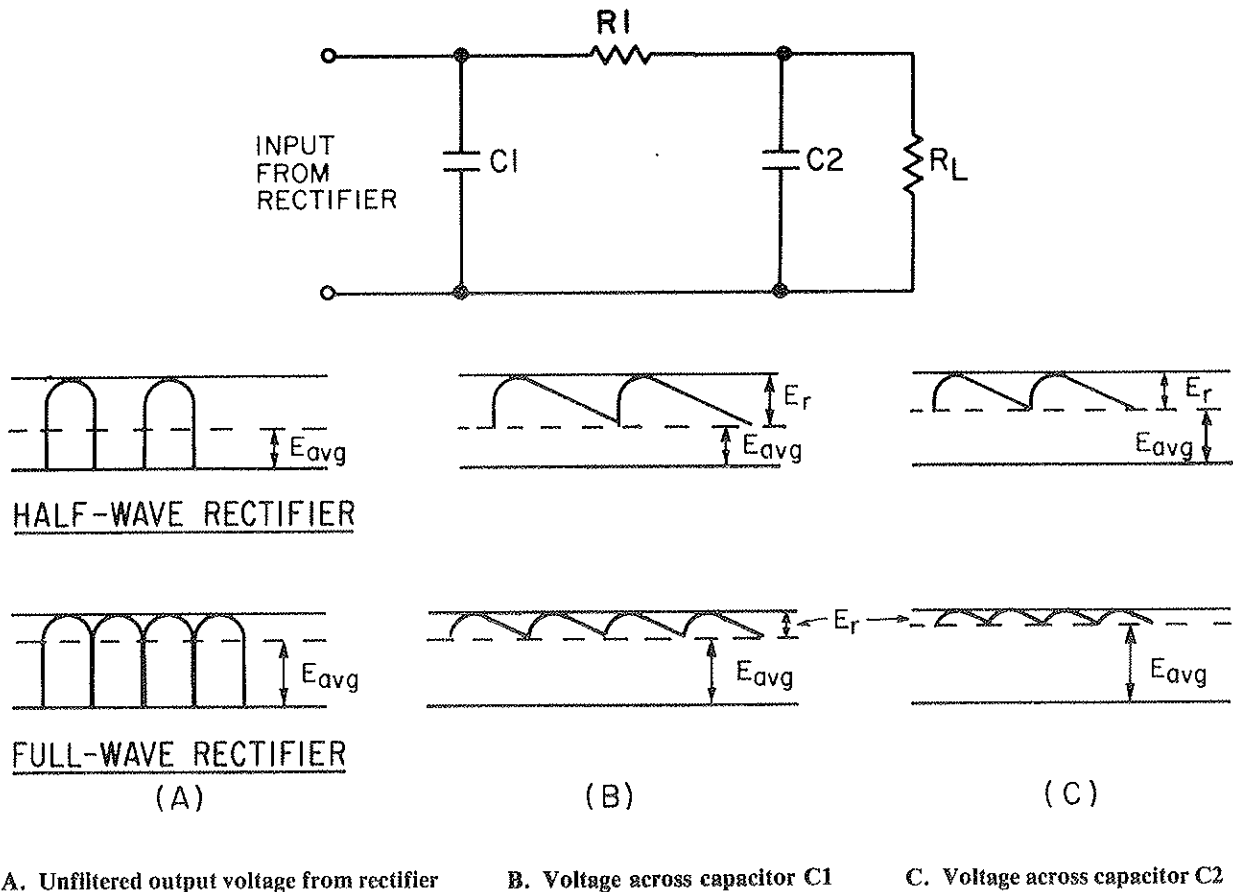

Figure 3-37.—RC filter and waveforms.
Figure 3-37 shows an RC capacitor-input filter and associated waveforms. Both half-wave and full-wave rectifiers are used to provide the inputs.
The RC filter in figure 3-37 consists of an input filter capacitor (C1), a series resistor (R1), and an output filter capacitor (C2). Although not part of the RC filter,  $R_L$  is shown to help explain the circuit. This filter is sometimes
The waveforms shown in view (A) of figure 3-37 represent the unfiltered output from a
Figure 3-37 illustrates an RC filter connected across the output of a rectifier. C1 performs exactly the same function as it did in the single capacitor filter. It is used to reduce the percentage of ripple to a relatively low value. Thus, the voltage across C1 might consist of an average d.c. value of +100 volts with a ripple voltage of 10 volts, as shown in view (B). This voltage is passed on to the R1-C2 network, which reduces the ripple even further (view C).